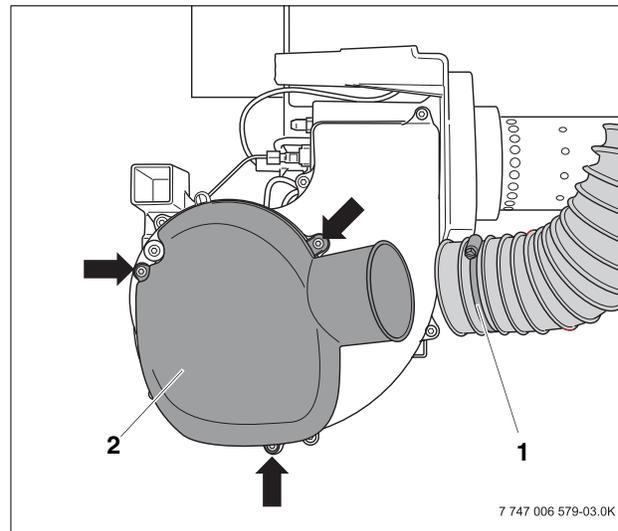
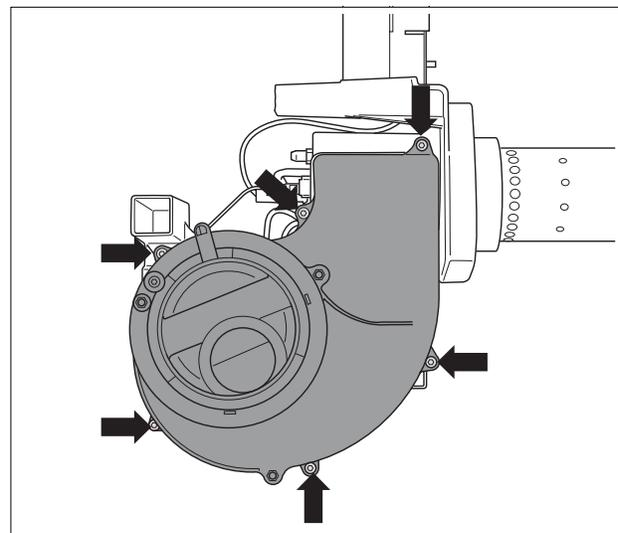

Fig 21 Disassembly of air intake noise attenuator
Fig 22 Disassembly of air intake housing
- Loosen hose clamp (Fig. 21, **Item. 1**) for the combustion air intake hose.
- Remove screws (Fig. 21, **Arrows**) and take off muffler (Fig. 21, **Item. 2**).
- Loosen and remove the 6 screws that hold the air intake housing (Fig. 22, **Arrows**).
- Re-install the air intake housing (Fig. 22) and air intake muffler (Fig. 21, **Item. 1**).